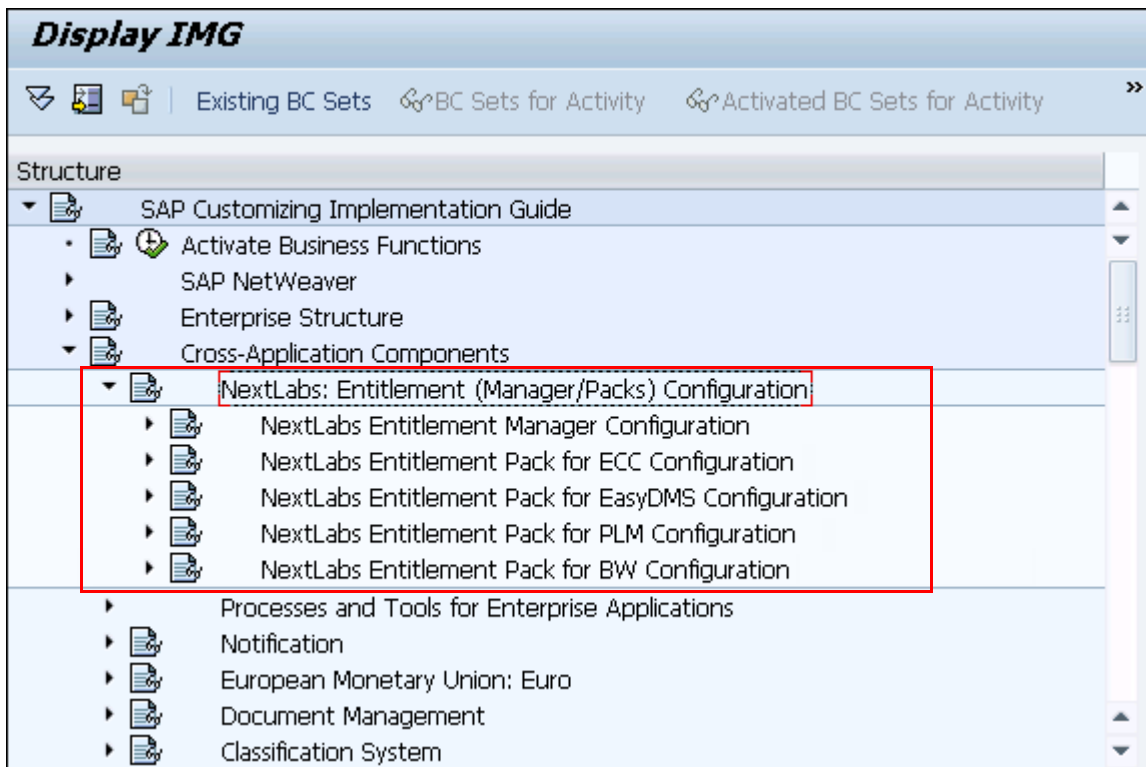

Figure 4-7: Using SPRO to access the configuration tool
- b Expand *NextLabs: Entitlement (Manager/Packs) Configuration*. As shown in Figure 4-7, the configuration tool organizes procedures by Dynamic Authorization Management and Entitlement Packs. You see only the Entitlement Packs that you have installed.